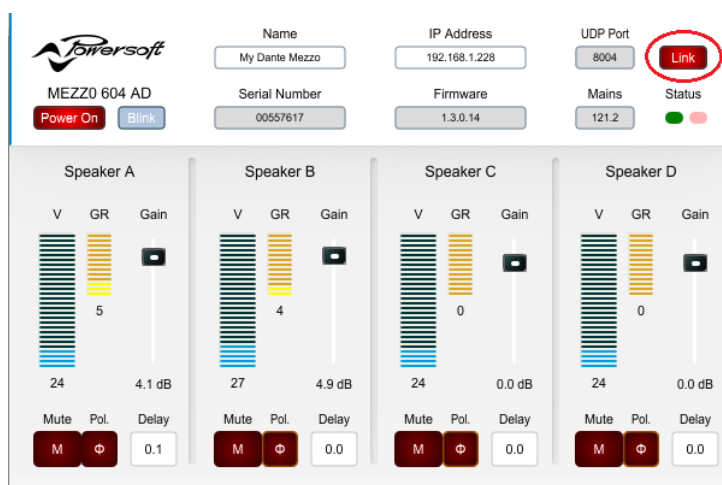

Figure 4 – Screenshot of module Link button.
6. Click on the *Link* button to begin the initial amp settings read process and to begin the polling scheme (Figure 4).